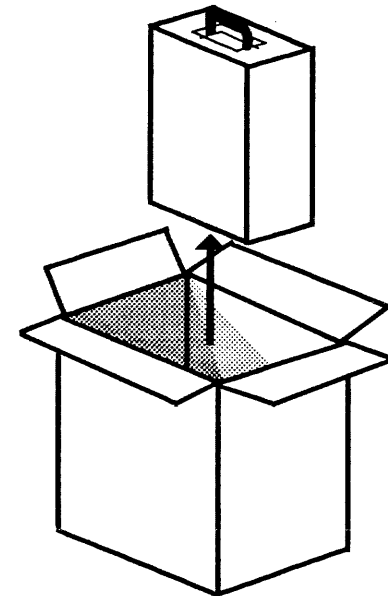

Figure 7. Unpacking the Removable Rigid Drive
1. Unpack the box marked "Rigid Disk Drive." (Figure 7)